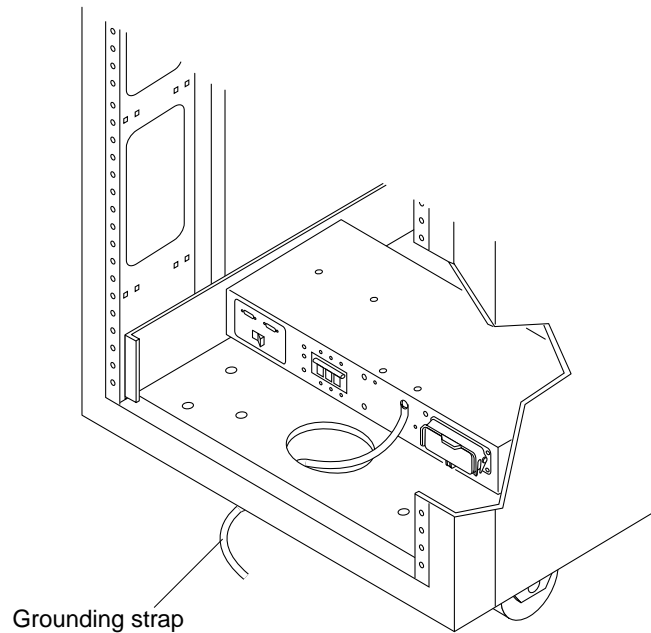

FIGURE B-4 Attaching the Grounding Strap to the Front Power Sequencer
3. Attach the other end of the grounding strap to the front power sequencer in the system (FIGURE B-4).